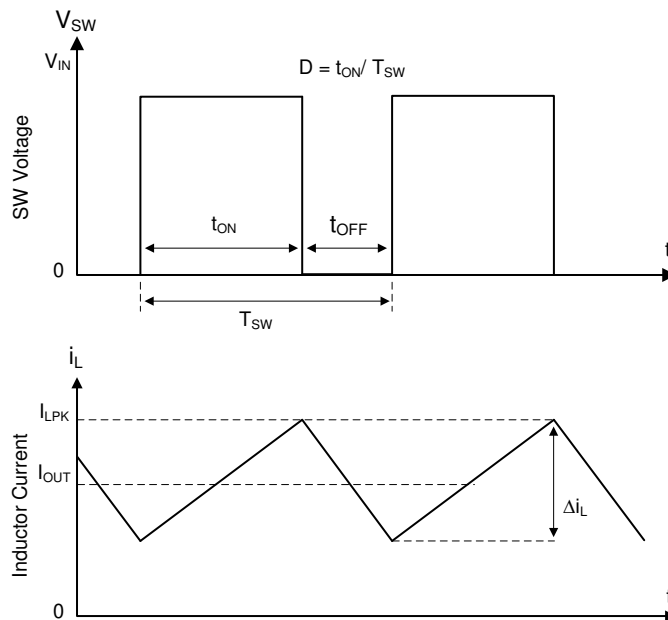

Figure 6-1. SW Node and Inductor Current Waveforms in Continuous Conduction Mode (CCM)
The following operation description of the TPSM84338 refers to the functional block diagram and to the waveforms in Figure 6-1. The TPSM84338 is a synchronous buck converter with integrated high-side (HS) and low-side (LS) MOSFETs (synchronous rectifier). The TPSM84338 supplies a regulated output voltage by turning on the HS and LS NMOS switches with controlled duty cycle. During high-side switch on time, the SW pin voltage swings up to approximately V_{IN} , and the inductor current, i_L , increases with linear slope $(V_{IN} - V_{OUT}) / L$. When the HS switch is turned off by the control logic, the LS switch is turned on after an anti-shoot-through dead time. Inductor current discharges through the low-side switch with a slope of $-V_{OUT} / L$. The control parameter of a buck converter is defined as Duty Cycle $D = t_{ON} / t_{SW}$, where t_{ON} is the high-side switch on time and t_{SW} is the switching period. The converter control loop maintains a constant output voltage by adjusting the duty cycle D . In an ideal buck converter where losses are ignored, D is proportional to the output voltage and inversely proportional to the input voltage: $D = V_{OUT} / V_{IN}$.